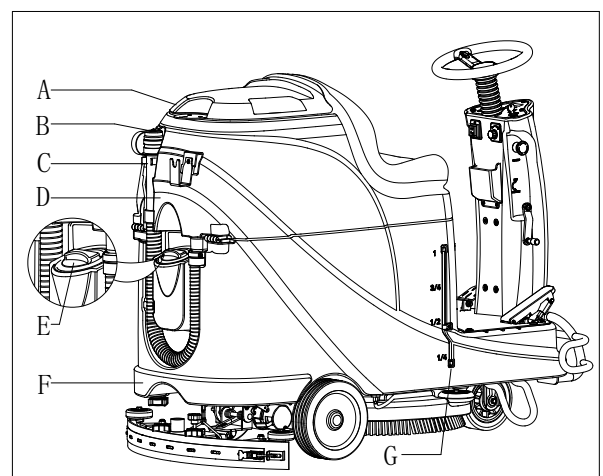

Figure 8
1. Open the water inlet cover (E, Figure 8).
3. Don't overfill the tank, refer to water level indicator (G) for the water volume.